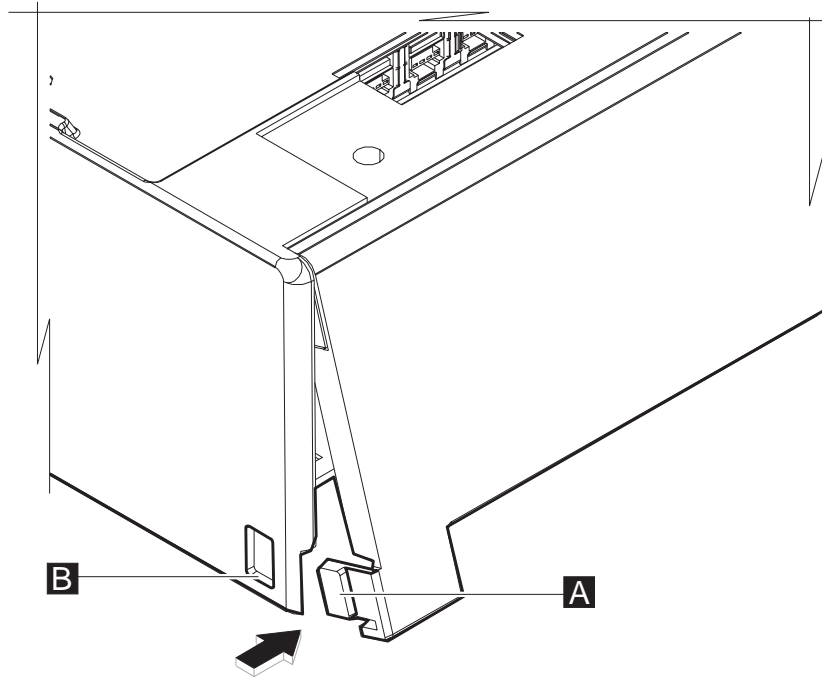

Figure 38. Opening the hinged rear door
3. Open the hinged rear door by placing your hand firmly in the middle of the rear door and pulling. The lower tabs ( **A** in Figure 38) will release automatically (if not, press them in slightly, as shown by the arrow).